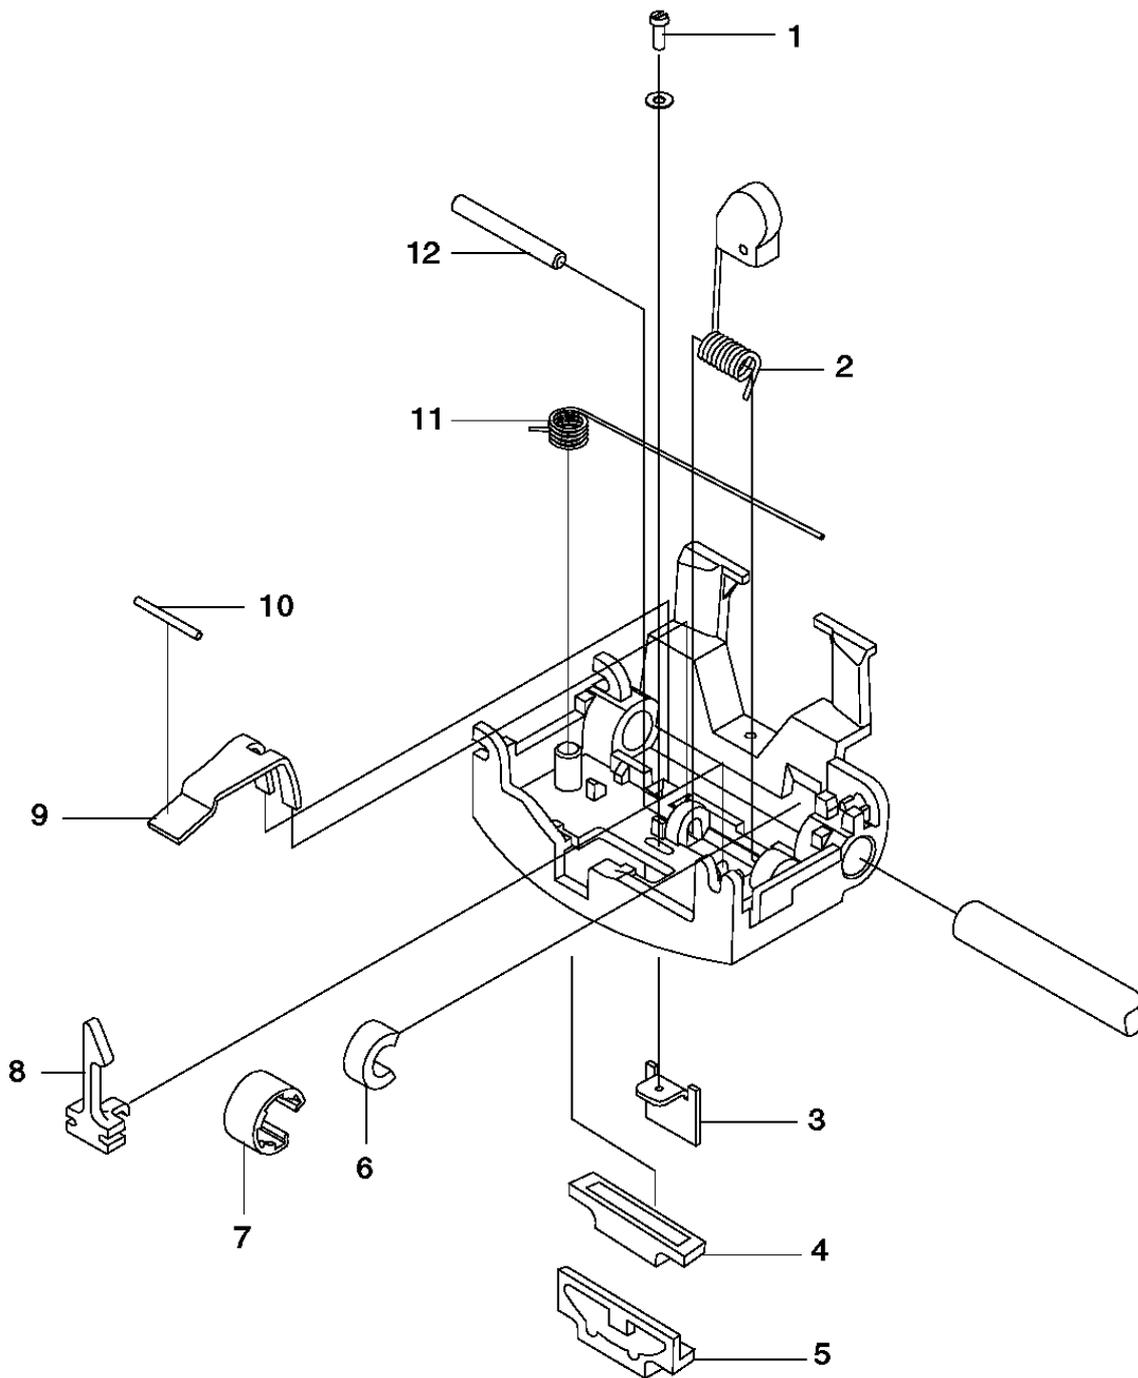

Figure 5-24. Print Head Carriage Components
2. Remove the wear shoe (4) that the carriage rides on. See Figure 5-24 in topic 5.5.19.2.
3. Remove the shaft from the assembly. The retainer (7) and wiper (6) will fall from the assembly.
4. Remove the spring (11).
5. Push down on the belt clamp (9) and hold it there.
6. Remove the clamp holding pin (10).
9. Remove the latch (8).
10. Pull the pin (12) out of the print head preload spring (2) and remove the preload spring.
11. Remove the screw (1) and the home sensor flag (3).